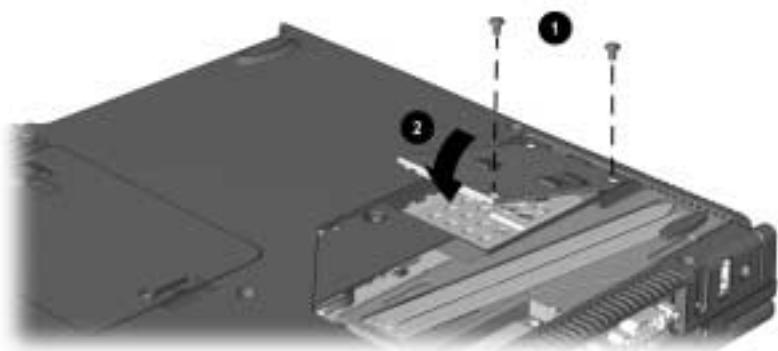

Figure 5-4. Installing a Modem or Modem/Network Interface Card
2. Remove the two screws ① that secure the modem or modem/NIC to the system board (Figure 5-4).
4. Install the card into the mini PCI slot, making sure to seat the card connector on the system board ②.